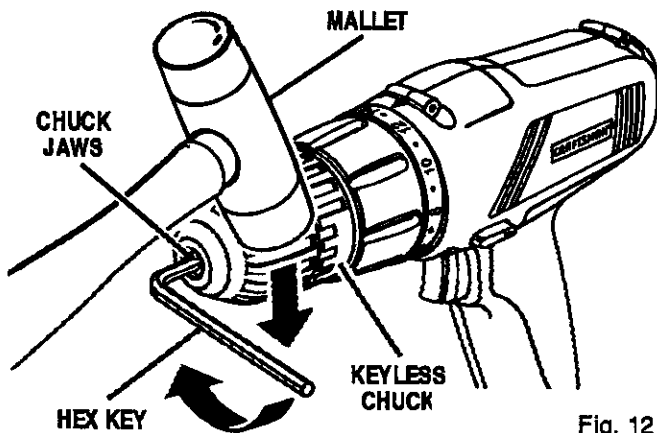

Fig. 12
See Figures 12, 13, and 14.
- Tap the hex key sharply with a mallet in a clockwise direction. See Figure 12. This will loosen the screw in the chuck for easy removal.